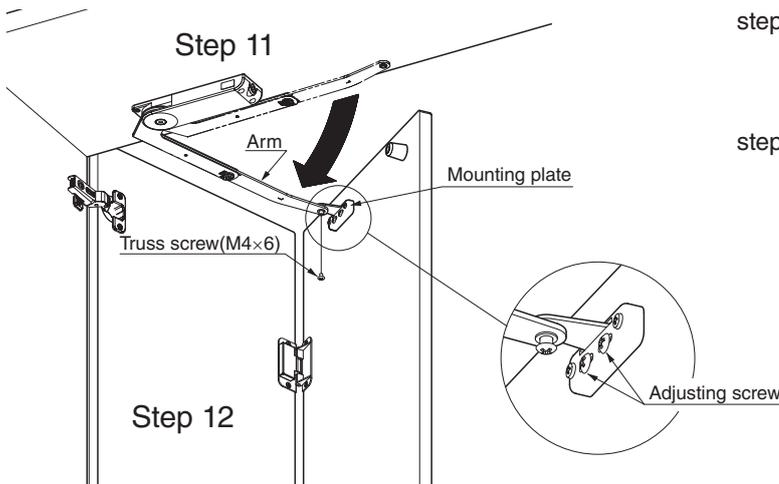

Fig. 11 Installation of doors (for right-hand side)
step11 Fit the projection of the mounting plate into the arm hole to the limit (Fig. 11), and then fix them tightly with the truss screw (M4x6). The tightening torque should be not less than 15kgf · cm (1.5N · m).